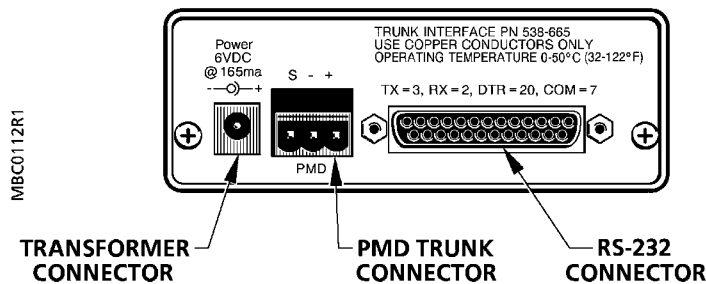

Figure 3. Rear Panel of Trunk Interface II.
4. Plug the DC power cord into the transformer connector on the Trunk Interface II, then plug the power pack into the appropriate power source (Figure 3).